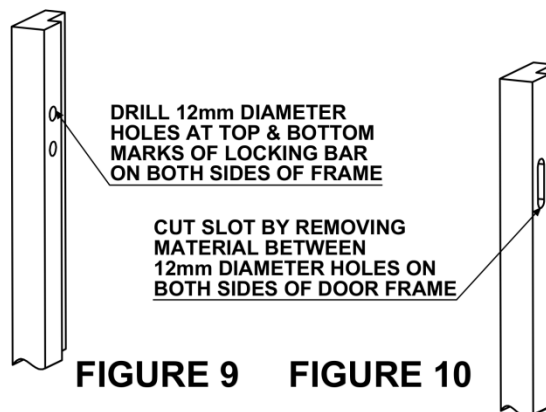

FIGURE 9 **FIGURE 10**
21. If frame is concrete filled, drill out masonry to a depth so that Locking Bars will not 'bottom out' when fully extended. (Fig. 9 & 10)